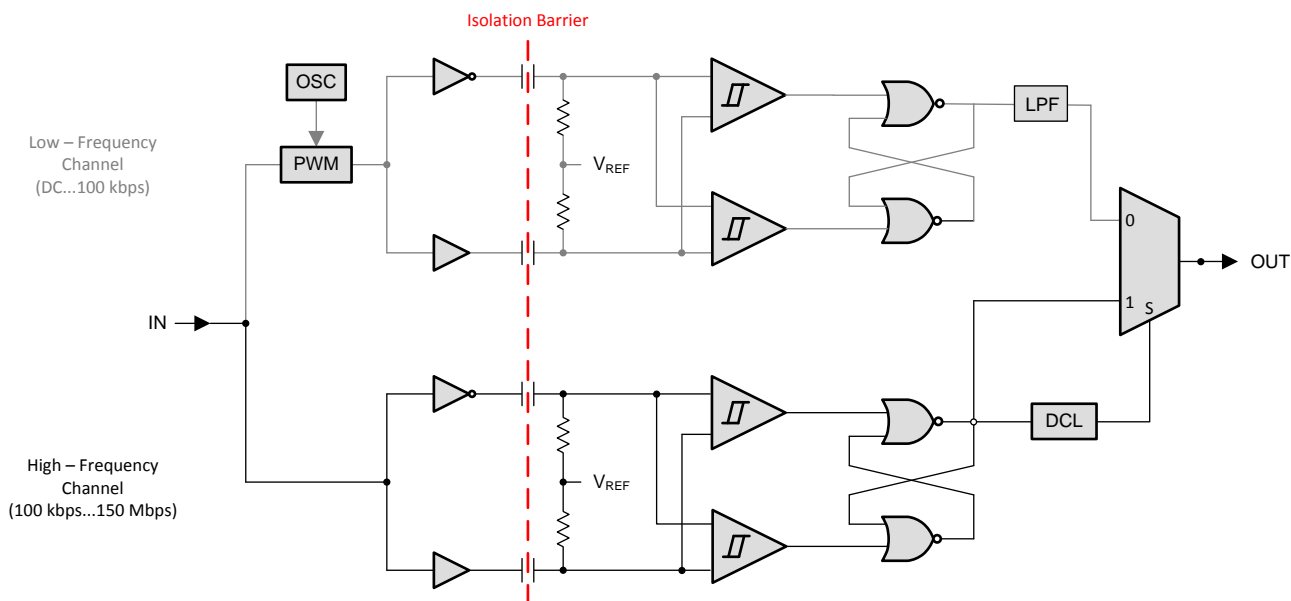

Figure 20. ISO7631FM Conceptual Block Diagram
The isolator in Figure 20 is based on a capacitive, isolation-barrier technique. The I/O channel of the device consists of two internal data channels, a high-frequency channel (HF) with a bandwidth from 100 kbps up to 150 Mbps, and a low-frequency channel (LF) covering the range from 100 kbps down to DC. In principle, a single-ended input signal entering the HF-channel is split into a differential signal via the inverter gate at the input. The following capacitor-resistor networks differentiate the signal into transients, which then are converted into differential pulses by two comparators. The comparator outputs drive a NOR-gate flip-flop whose output feeds an output multiplexer. A decision logic (DCL) at the driving output of the flip-flop measures the durations between signal transients. If the duration between two consecutive transients exceeds a certain time limit, (as in the case of a low-frequency signal), the DCL forces the output-multiplexer to switch from the high- to the low-frequency channel.